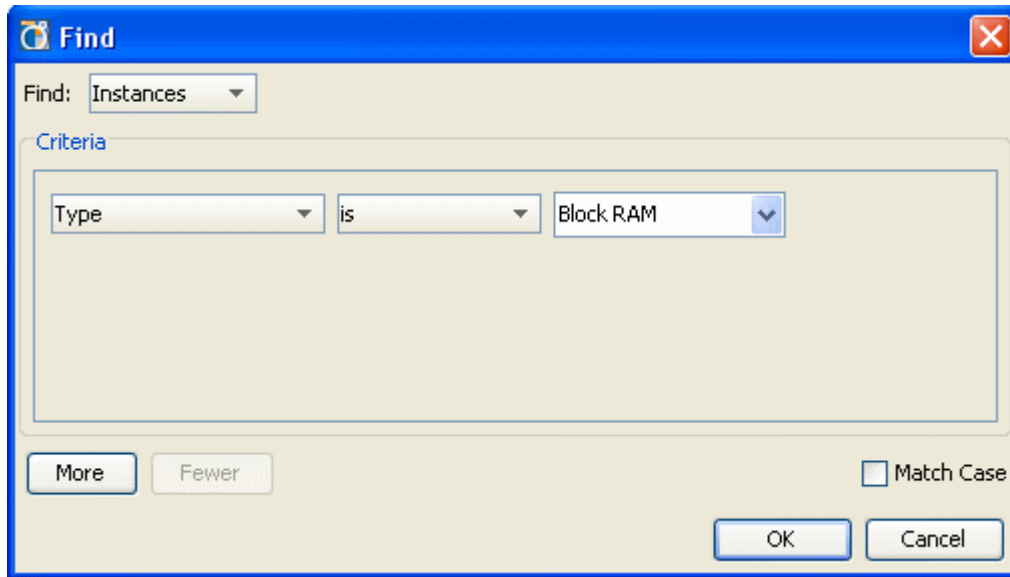

Figure 20: Searching for RTL Logic using the Find Dialog Box
- 3-6-1.** Click the Find button in the main toolbar  or select **Edit > Find** to open the Find dialog box (Figure 20).